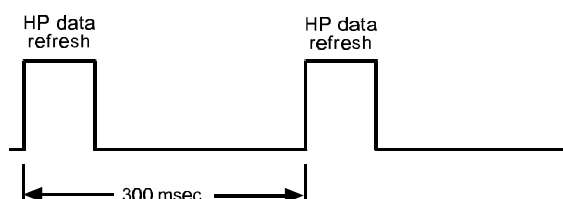

Figure 4 - HP scan rate timing
When choosing the rates, the user must also be aware of the amount of time that will be consumed by the refresh process. If a scan list uses a refresh rate of 300 msec then the refresh process for the named channels is initiated every 300 msec. As a simple example, consider Figure 4 in which all high priority (HP) channels are being refreshed every 300 msec.
When selecting other, slower, scan lists, time must be allowed for those activities without overloading the BIM. This can be checked/monitored using bit 12 of the input Status Word (see page 12). In Figure 4 there is time between HP refreshes for other refresh activities to take place.